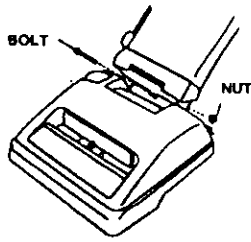

Fig. 3
- Four position carpet height adjustment **Fig. 3**
3. Remove handle bolt and nut (Fig. 3 & 4).